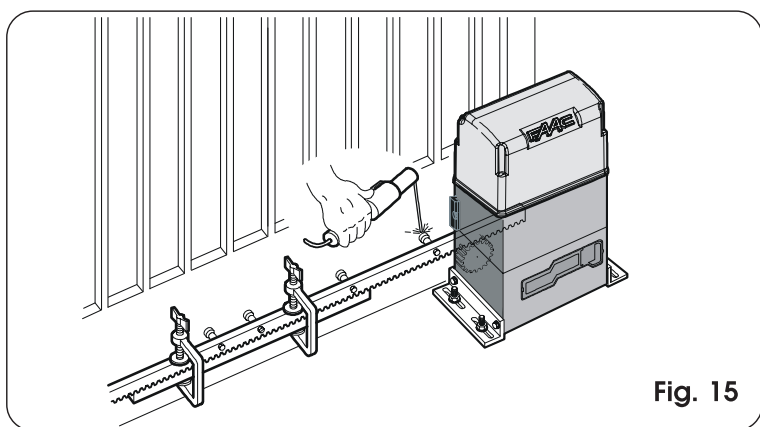

Fig. 15
- 5) Fit another rack element next to the previous one, using the second piece of rack, as shown in Fig. 15, to synchronise the two.